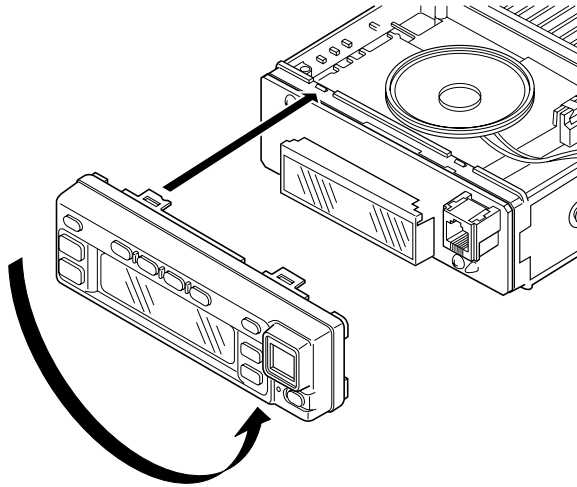

Fig. 14 / 图 14
- Rotate the control panel 180 degrees and mount it on the transceiver. Refit the two halves of the case to complete installation. (Fig. 14)
- 将控制面板旋转180度并且装配在车台机上。重新将两部分机壳装好并完成安装。(图14)